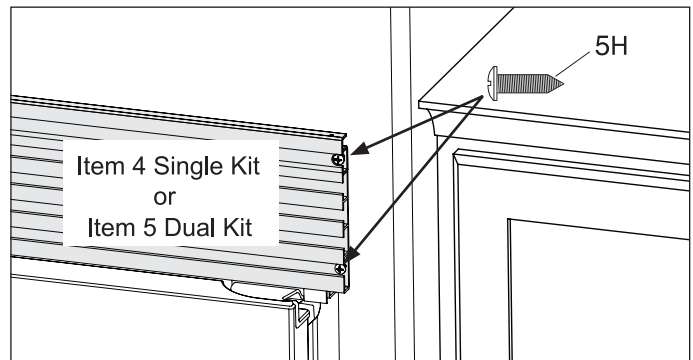

Figure 15
- a. Slide units into place. Adjust height so top trim height reaches 79.09" (2009 mm). Center units in opening and level. (See Figure 15)
- b. Drill 1/8" pilot holes and fasten two (2) screws per side with a Phillips driver to kitchen cabinets.